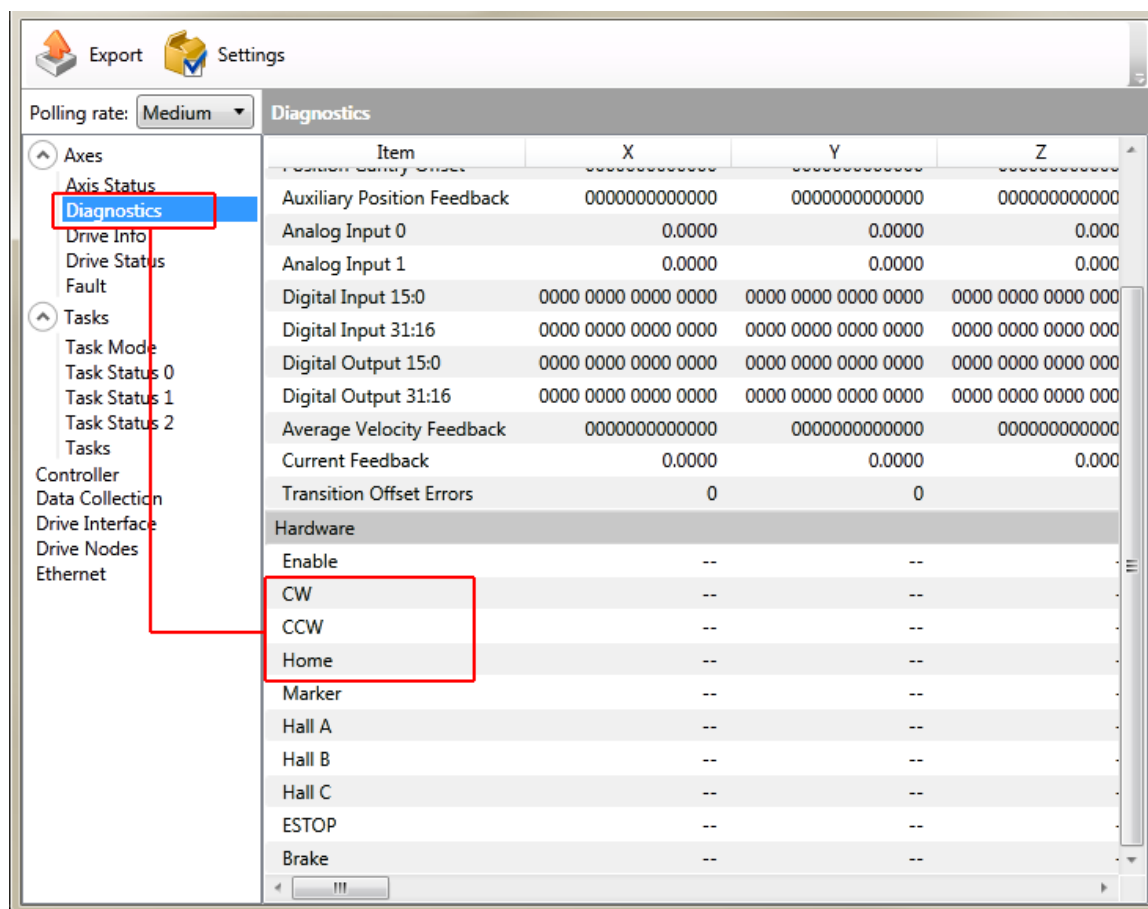

Figure 2-23: End of Travel and Home Limit Input Diagnostic Display
End of Travel (EOT) limits are required to define the end of the physical travel on linear axes. Positive or clockwise motion is stopped by the clockwise (CW) end of travel limit input. Negative or counterclockwise motion is stopped by the counterclockwise (CCW) end of travel limit input. The Home Limit switch can be parameter configured for use during the home cycle, however, the CW or CCW EOT limit is typically used instead. All of the end-of-travel limit inputs accept 0-5 VDC level signals. Limit directions are relative to the encoder polarity in the diagnostics display (refer to Figure 2-23).
If the EOT limits are reversed, you will be able to move further into a limit but be unable to move out. To correct this, swap the connections to the CW and CCW inputs at the Feedback connector or swap the CW and CCW limit functionality in the software using the EndOfTravelLimitSetup parameter. View the logic level of the EOT limit inputs in the Diagnostics display (shown in Figure 2-23).